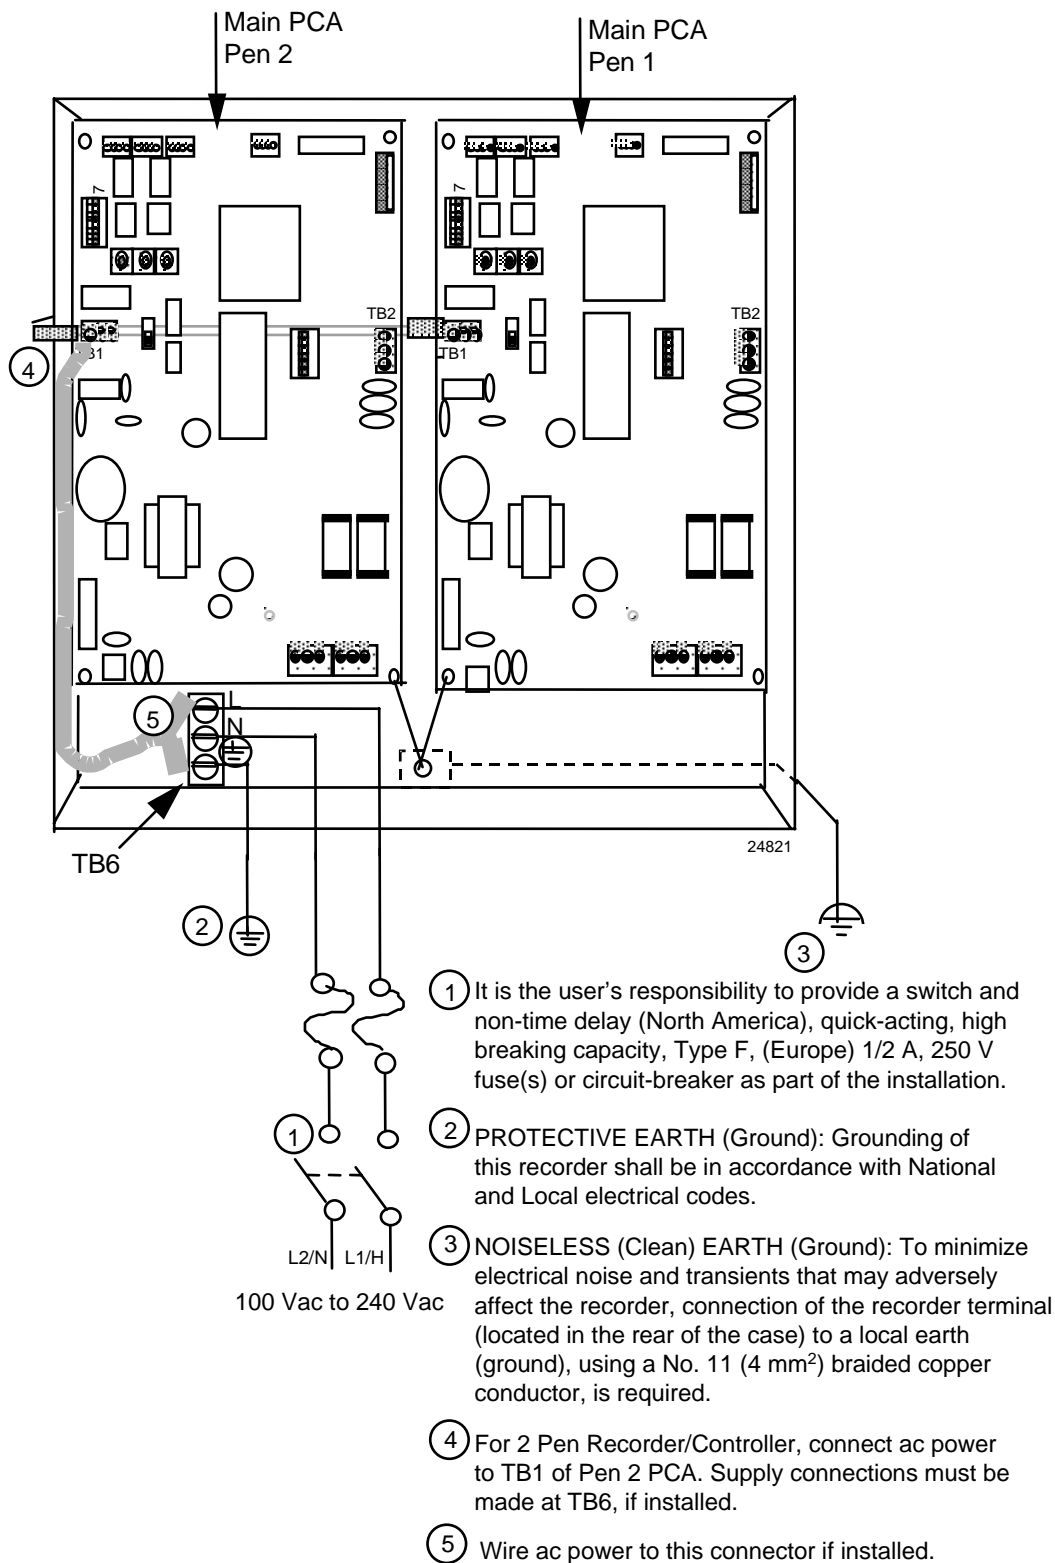
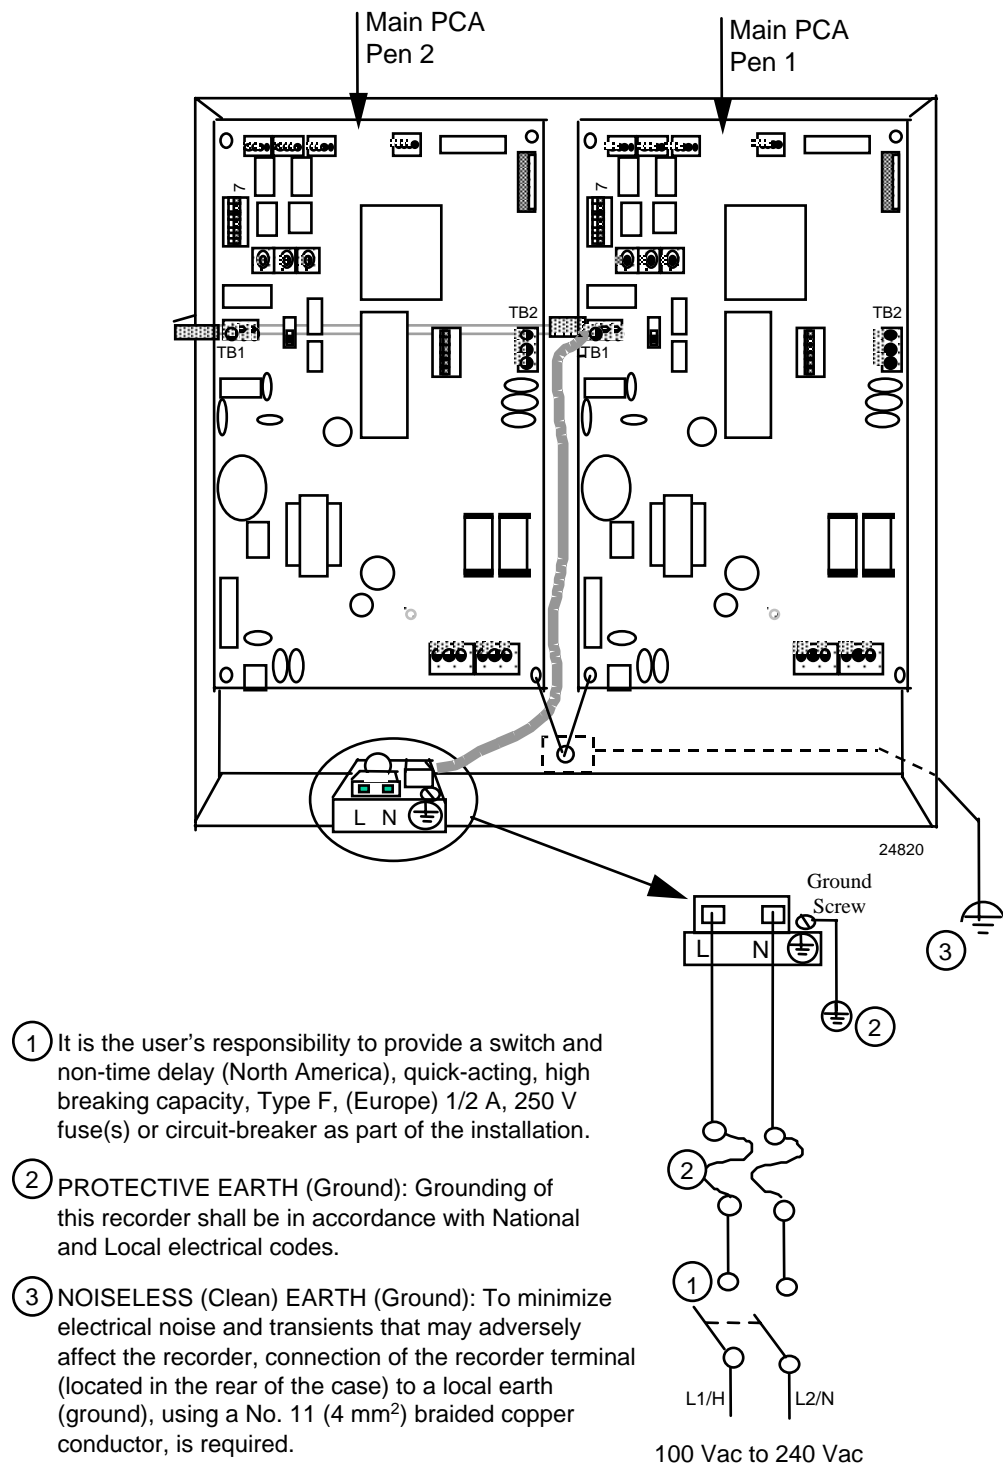

Figure 2-9 Power Wiring – Models Without CE Mark
Figure 2-10 Power Wiring – Models With CE Mark
Power Wiring - Models Without CE Mark	Figure 2-9
Power Wiring - Models With CE Mark	Figure 2-10
- Figure 2-9 for models without CE Mark.
- Figure 2-10 for models with CE Mark.
2	Locate the power terminal block for your recorder model. <ul style="list-style-type: none"> • See Figure 2-9 for models without CE Mark. • See Figure 2-10 for models with CE Mark. Note that the power connection between the boards on two-pen models is made at the factory. On CE Mark and UL models the connection between the terminal block at the bottom of the case and the PCA is also made at the factory. In all models, you only have to connect power to a single terminal block.
ATTENTION: To avoid damaging the recorder, be sure that you install the power wires into the correct screw terminals as shown Figure 2-9 and Figure 2-10.
ATTENTION To avoid damaging the recorder, be sure that you install the power wires into the correct screw terminals as shown in Figure 2-9 and Figure 2-10.
ATTENTION To avoid damaging the recorder, be sure that you install the power wires into the correct screw terminals as shown Figure 2-9 and Figure 2-10.